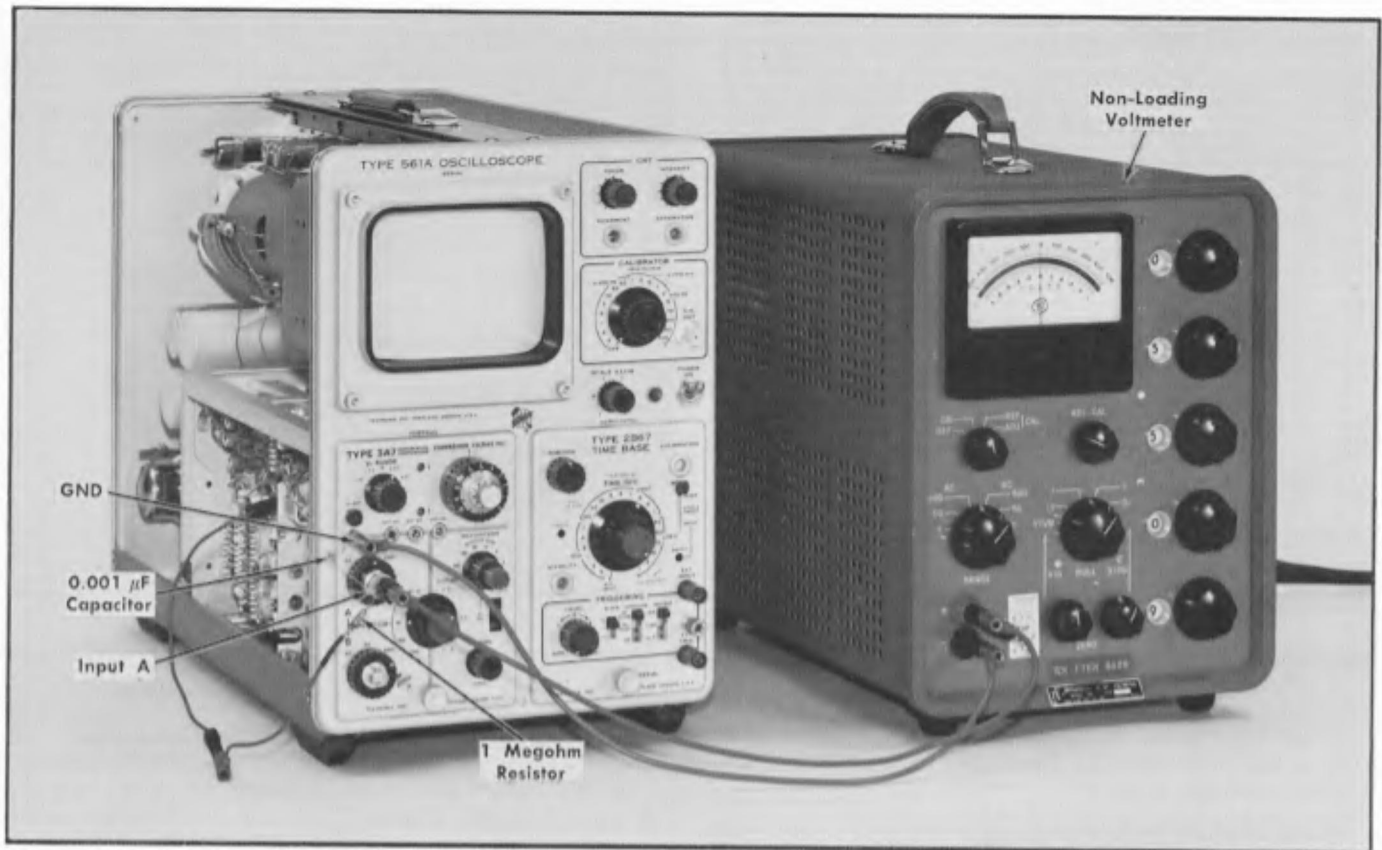

Fig. 5-36. Setup at completion of step 28e.
e. Set the non-loading voltmeter to obtain a null reading (at about 5.5 volts). Fig. 5-36 shows the setup.
e. Set the non-loading voltmeter to obtain a null reading (about 5.5 volts). This is the same setup as Fig. 5-36 except the connections are made to input B.